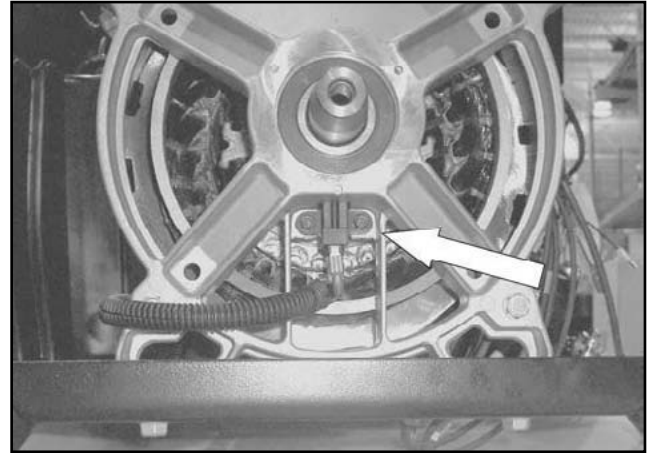

Figure 33.
10. Remove Brushes: Using a 7mm socket remove brushes. See Figure 33.